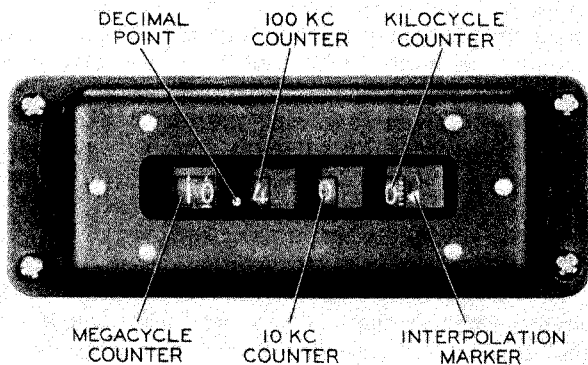

Figure 2-2. MEGACYCLES Frequency Indicator, Front View
**2-9. CALIBRATION.** (Refer to figure 2-2.)
- b. Operate the EMISSION switch (2) to the CAL position.
- c. Operate the BANDSWITCH to the megacycle frequency on which calibration is desired. The megacycle frequency is indicated by the left-hand counter wheel of the MEGACYCLES frequency indicator (10).
- d. Operate the TUNING control to the 100-kilocycle check point nearest the desired calibration frequency. For example, assume calibration is desired at the check point nearest the frequency of 10.440 megacycles. The BANDSWITCH (3) and TUNING control (4) should be operated for a reading of 10.400 on the MEGACYCLES frequency indicator (10).
e. Rock the TUNING control (4) slowly around the check point frequency until a zero beat is heard in the headset.
f. Depress the DIAL ZERO knob (9) and rotate until the reading on the MEGACYCLES frequency indicator (10) corresponds to the nearest check point frequency. In the example used in step d, this would be 10.400 megacycles.